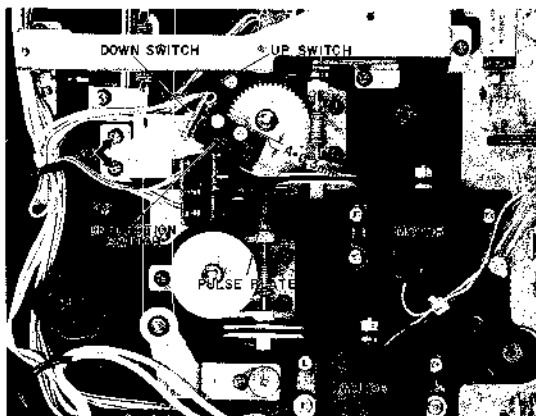

Fig. 21
ADJUSTMENT (Refer to Figs. 21, 22)
- 13) Turn the pulse plate clockwise (in the arrow direction shown in Fig. 21) by about 5 mm with your finger, and check that the pulse plate returns to its original position. If the pulse plate does not return, repeat from Step 4).
ADJUSTMENT (Refer to Fig. 21)